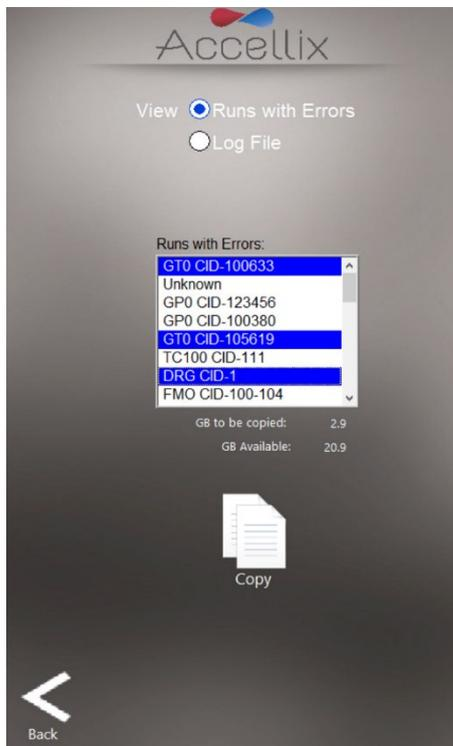

Figure 21: Copy Test Runs with Errors screen
- Files related to test runs for which errors were generated can be selected and copied (Figure 21). Individual cartridge data folders can be selected together by holding down the Control Key on an attached keyboard while tapping on an entry in the list. Tap the **Copy** icon.